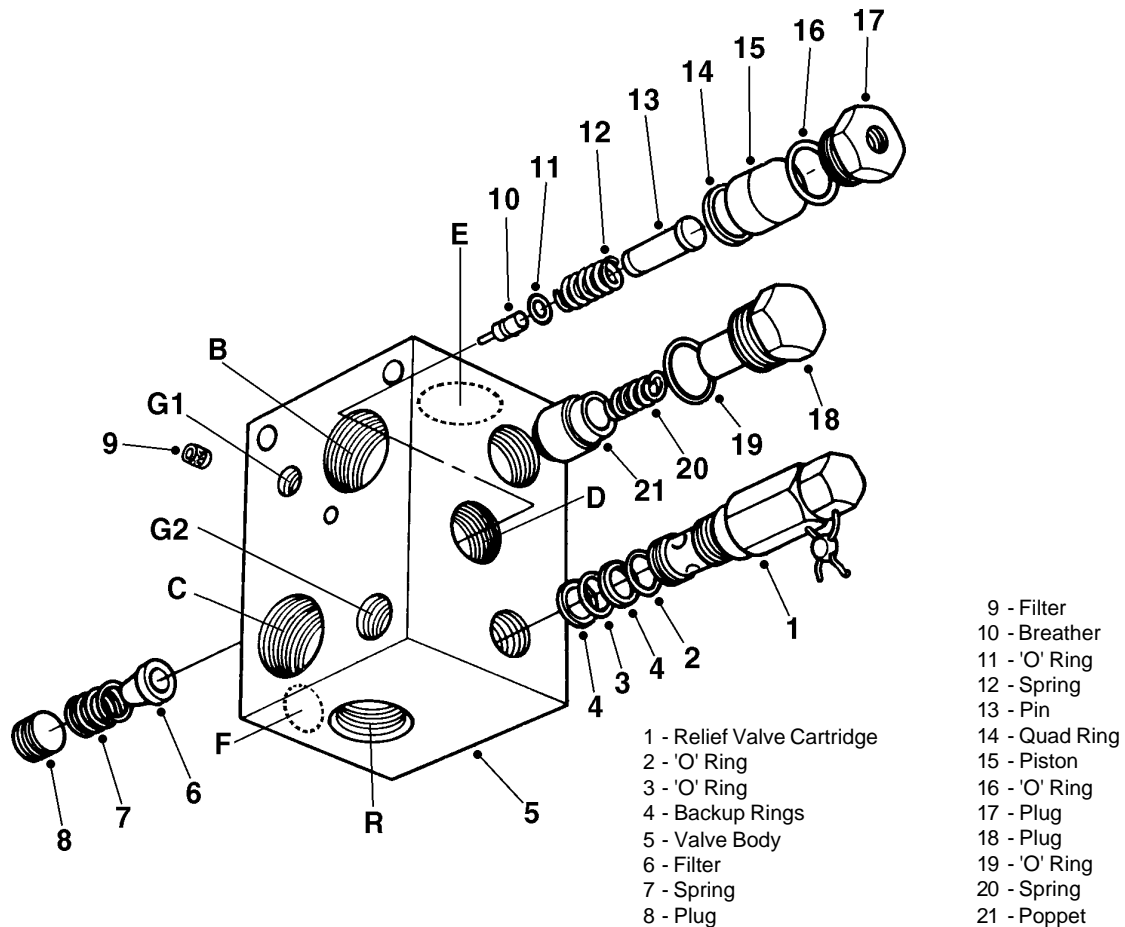

Fig. 4 - Exploded View of Accumulator Valve
Relief valve cartridge (8), at the lower portion of the assembly, is preset to 207 bar (3 000 lbf/in²) and seated. This valve acts as a backup in the event of a malfunction of the steering pump compensator valve. Should the compensator valve allow steering system pressure to exceed the preset pressure of relief valve cartridge (8), valve will open and relieve excess oil pressure to the steering and brake control tank. Refer to Fig. 4.
Should pressure in any of these circuit lines exceed the preset pressure setting on relief valve cartridge (8), the relief valve will open and oil will exit through port 'R' to tank. Refer to Fig. 4.
Numbers in parentheses refer to Fig. 4.